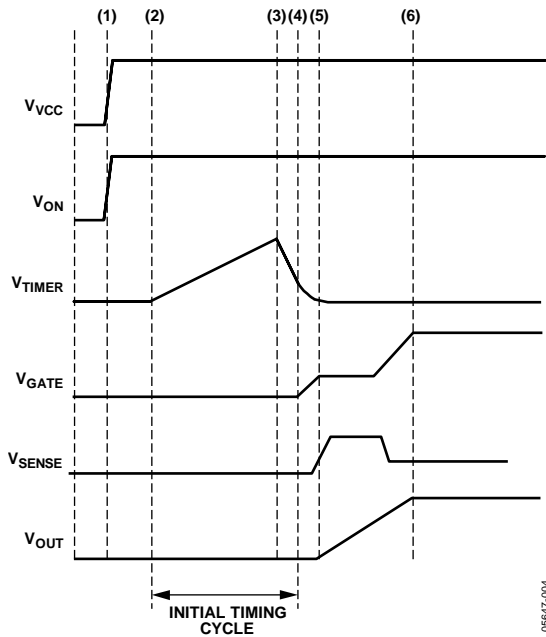
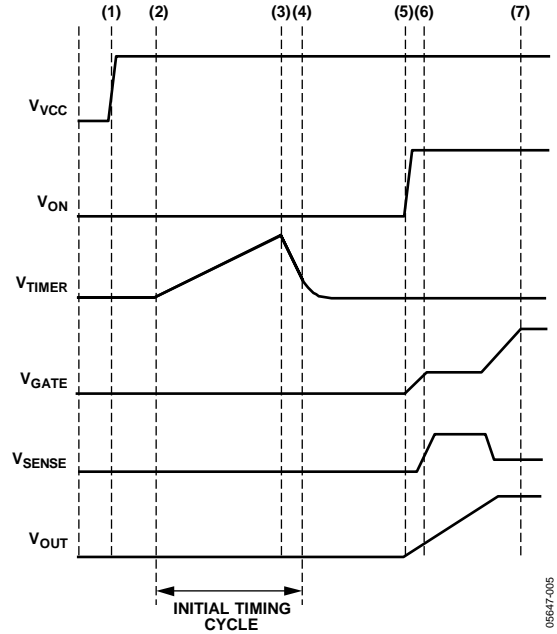

Figure 30. Startup (ON Asserts as Power Is Applied)
Figure 31. Startup (ON Asserts After Power Is Applied)
When VCC is first connected to the backplane supply, the internal supply (Time Point (1) in Figure 30) of the ADM1175 must be charged up. A very short time later (significantly less than 1 ms), the internal supply is fully up and, because the undervoltage lockout voltage has been exceeded at VCC, the device comes out of reset. During this first short reset period, the GATE pin is held down with a 25 mA pull-down current, and the TIMER pin is pulled down with a 100  $\mu\text{A}$  current sink.
When the initial timing cycle terminates, the device is ready to start a hot swap operation (assuming the ON/ONB pin is asserted). In the example shown in Figure 30, the ON pin is asserted at the same time that  $V_{CC}$  is applied, so the hot swap operation starts immediately after Time Point (4). At this point, the FET gate is charged up with a 12  $\mu\text{A}$  current source. At Time Point (5), the threshold voltage of the FET is reached, and the load current begins to flow. The FET is controlled to keep the sense voltage at 100 mV (this corresponds to a maximum load current level defined by the value of  $R_{\text{SENSE}}$ ). At Time Point (6),  $V_{\text{GATE}}$  and  $V_{\text{OUT}}$  have reached their full potential, and the load current has settled to its nominal level. Figure 31 illustrates the situation where the ON pin is asserted after  $V_{CC}$  is applied.